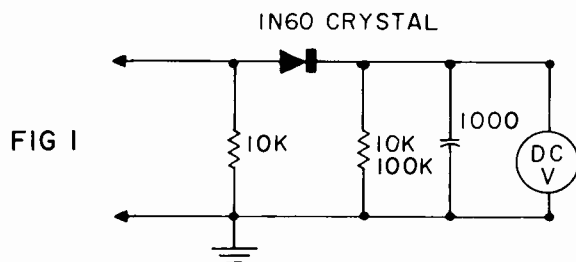

FIG 1
- Connect a detector probe and meter (or scope) to the cathode of the picture tube. Adjust the 4.5 mc trap (L204) for minimum output. See Fig. 1 for circuit of suitable detector probe.